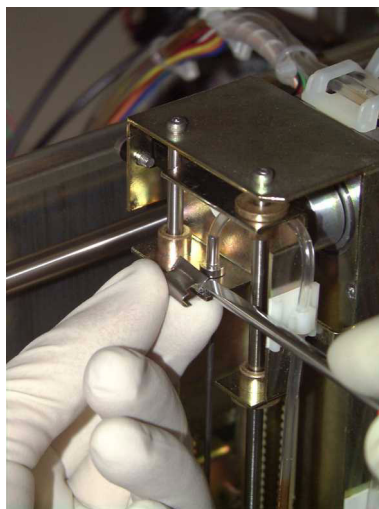

Fig.3: Clip
- ◆ Remove the clip maintaining the needle in its upper part (See "Fig.3: Clip, page 3").